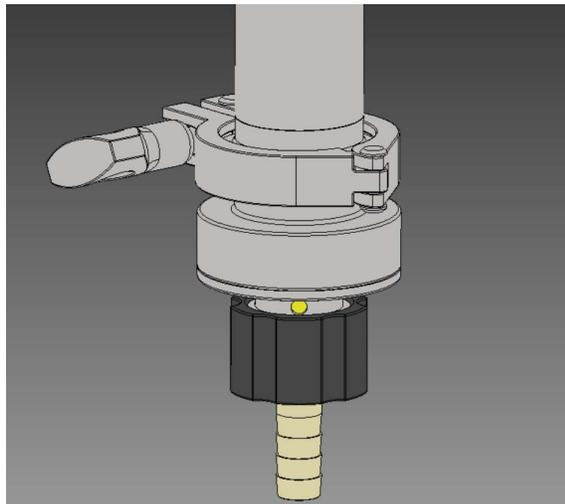

FIGURE E. 1. - SAMPLE VALVE IN OPEN POSITION
2. Yellow indicator should be visible upon valve opening (see Figure E.1.)